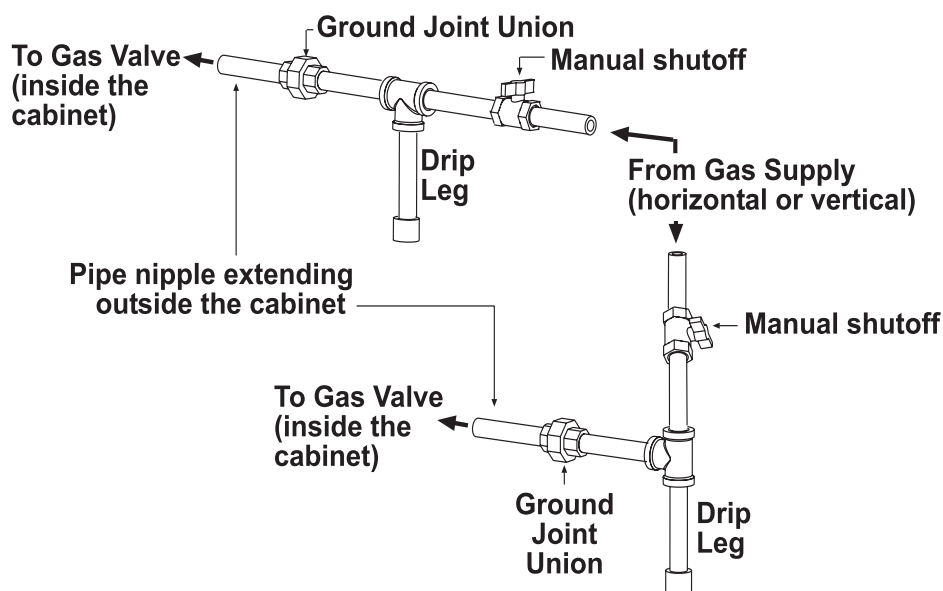

Figure 9. Gas Connections
- Install a ground joint union and manual shutoff valve upstream of the unit control system, as shown in Figure 9.
- The 1/8-inch plugged tapping in the manual shutoff valve in Figure 9 provides connection for a supply line pressure test gauge.
- The *National Fuel Gas Code* requires the installation of a trap with a minimum 3-inch drip leg (see Figure 9). Local codes may require a drip leg longer than 3 inches (typically 6 inches). To permit burner removal, this drip leg must extend beyond the edge of the heater.
- The gas connection is made at the pipe nipple that extends outside the cabinet, as shown in Figure 9. Gas connection sizes are listed in Table 13.